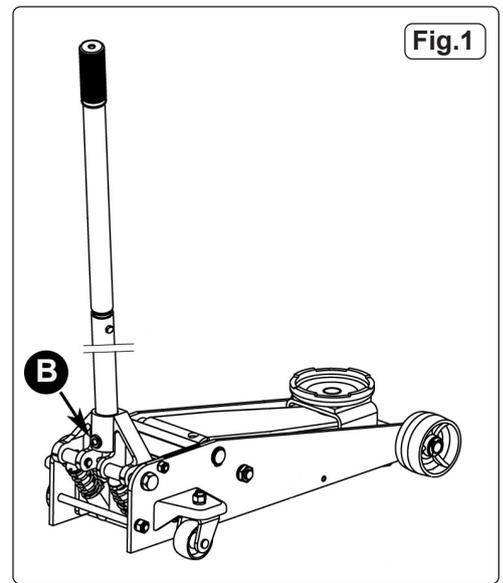

Fig.1
- 4.2. Undo the handle socket screw Fig.1-B until it no longer protrudes into the handle socket.
- 4.4. Ensure that the handle is correctly inserted into the socket, then tighten the handle socket screw Fig.1-B.